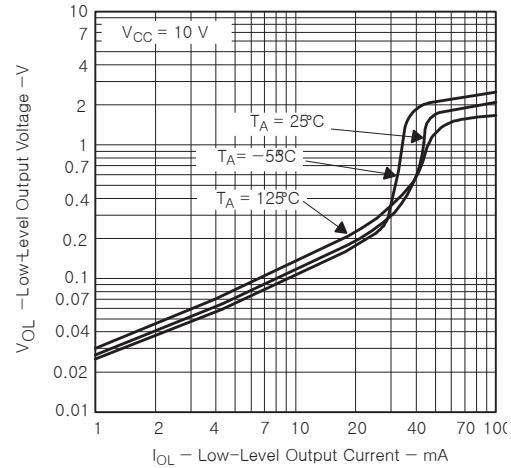

Figure 2. Low-Level Output Voltage vs Low-Level Output Current
4. Values specified are for a device in a monostable circuit similar to Fig. 2, with component values as follow: $R_A = 2\text{K}\Omega$ to $100\text{ K}\Omega$, $C = 0.1\mu\text{F}$.